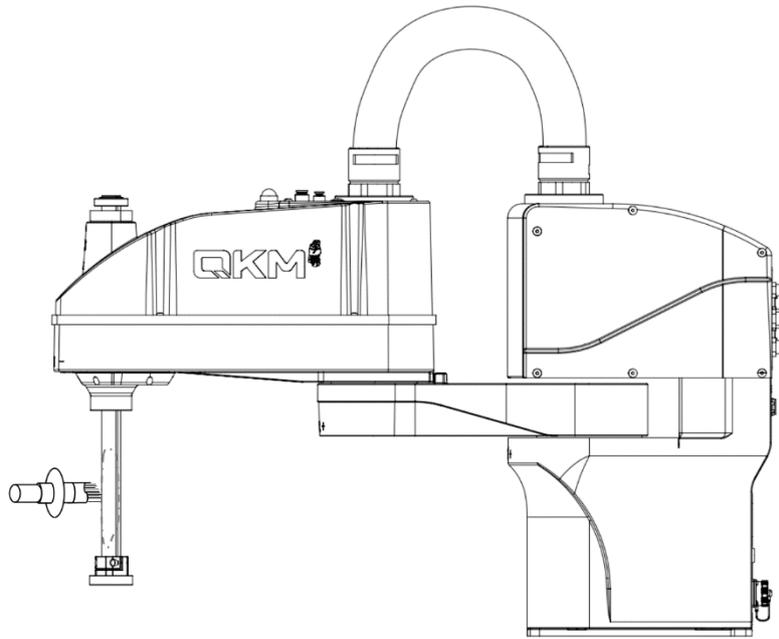

Figure 4-3 Apply lubricating grease
Step 2 Wipe the old grease off the screw shaft with dust-free paper, and then apply an appropriate amount of grease on the screw shaft and use the special oil brush to apply it evenly, as shown in Figure 4-3.